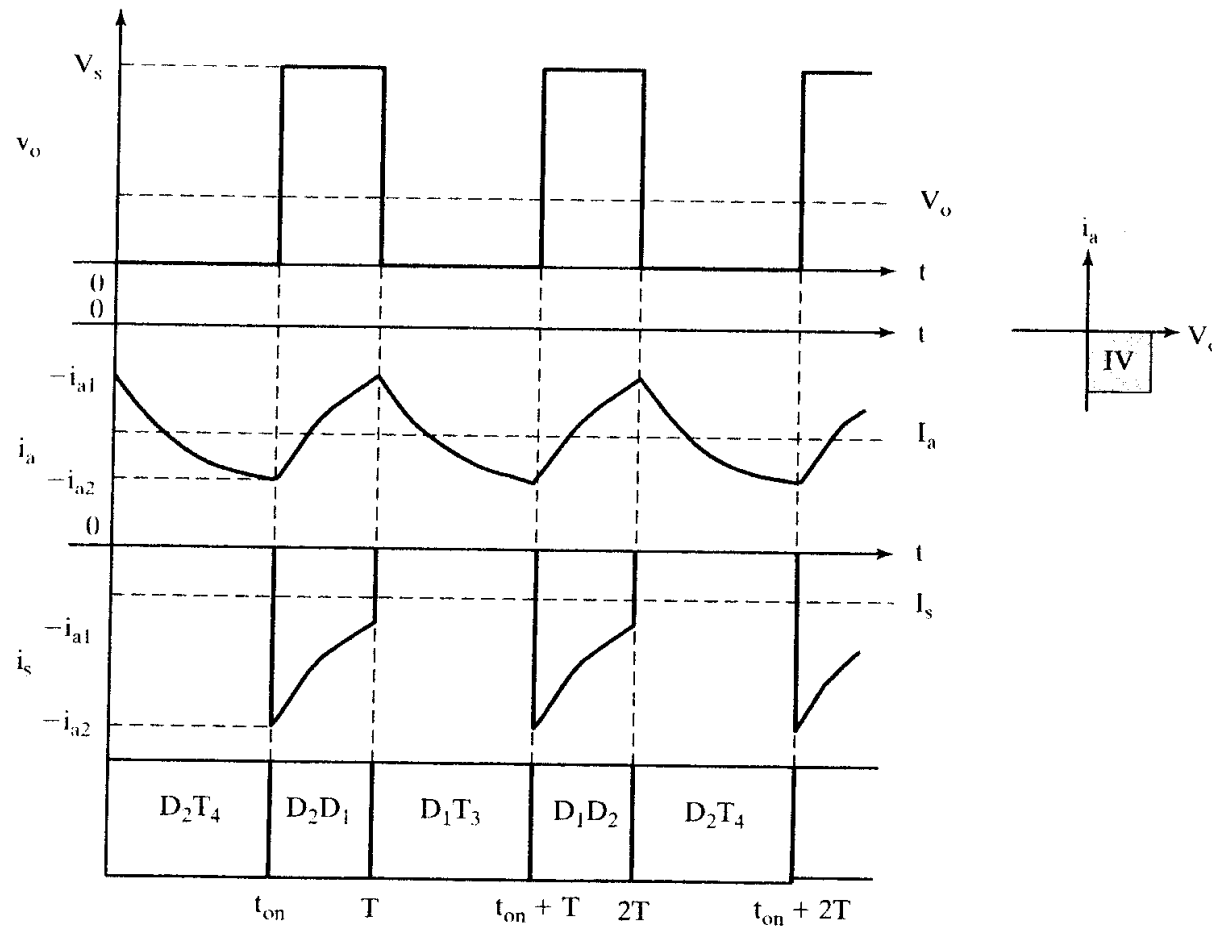

Figure 4.10 Fourth-quadrant operation of the chopper
- Fig. 4.10 Waveforms in fourth-quadrant operation.